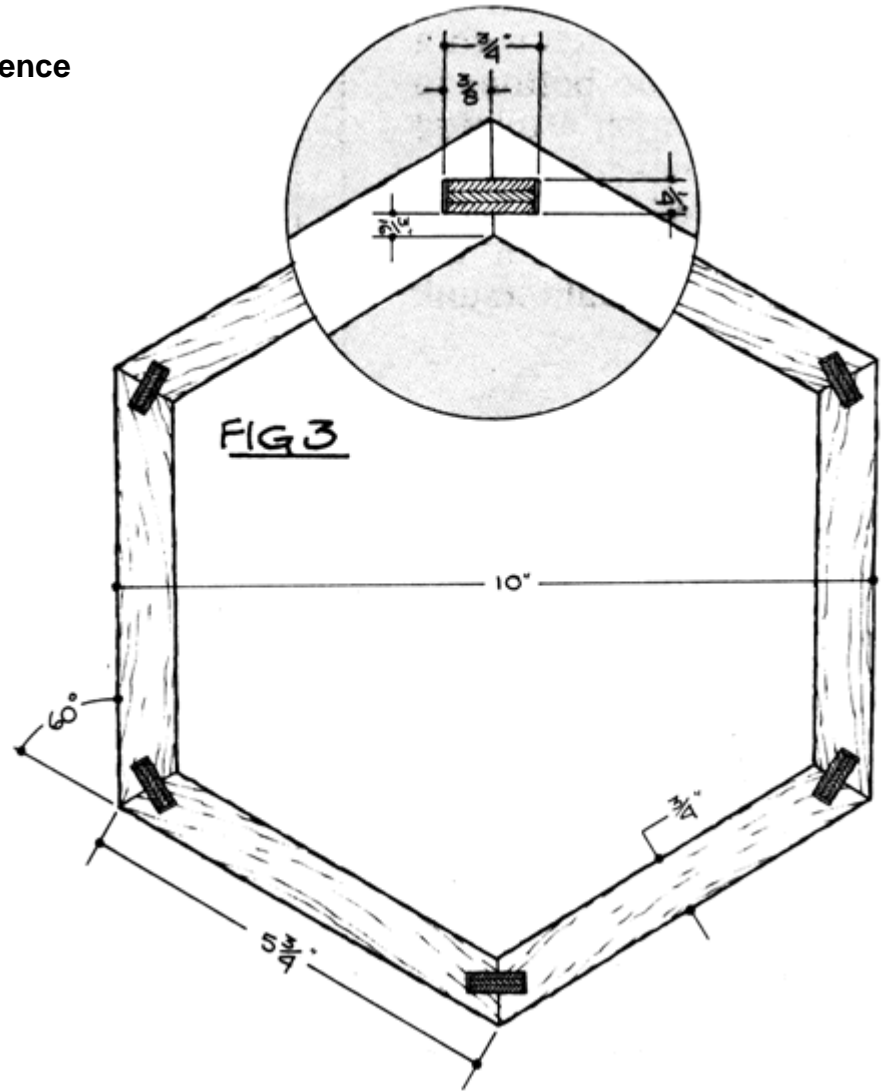

Figure 2. Spine Groove Detail
6. Adjust the table saw rip fence to properly locate the spline groove (see **Figure 2**).